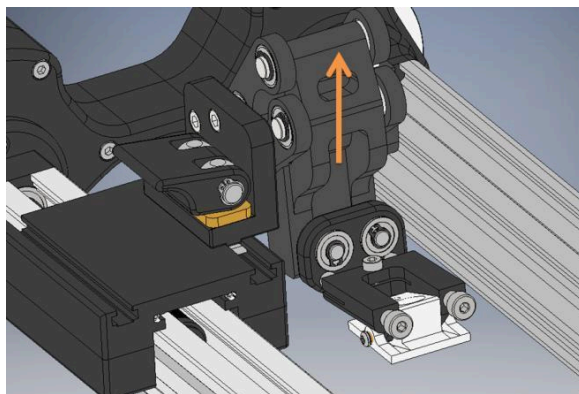

Figure 2
- 3) Lift up on the parallel arm assembly to lift the lower part of the Probe Guide off the work surface (Figure 2).